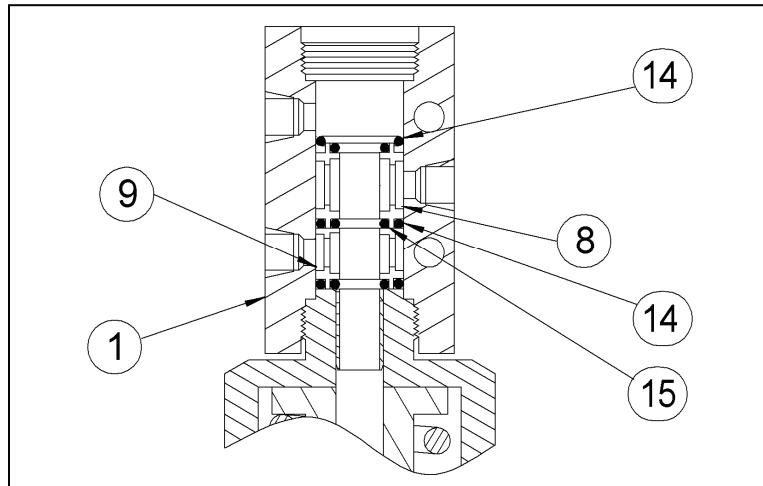

Figure 5
15. Place a lubricated outer o-ring (item 14) in the bore of the body (item 1) on top of the center sleeve (item 8). Do not try to seat o-ring at this time. (See Figure 5)